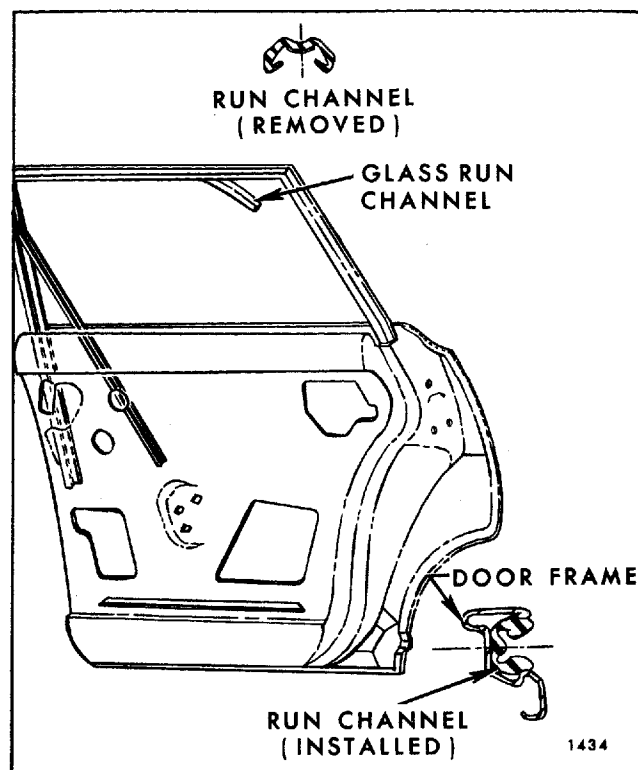

Fig. 7-153—Window Run Channel Installation - "X" Closed Styles
3. With finger pressure, squeeze run channel together at rear end and gently pull run channel out of rear door upper frame (See Fig. 7-153).